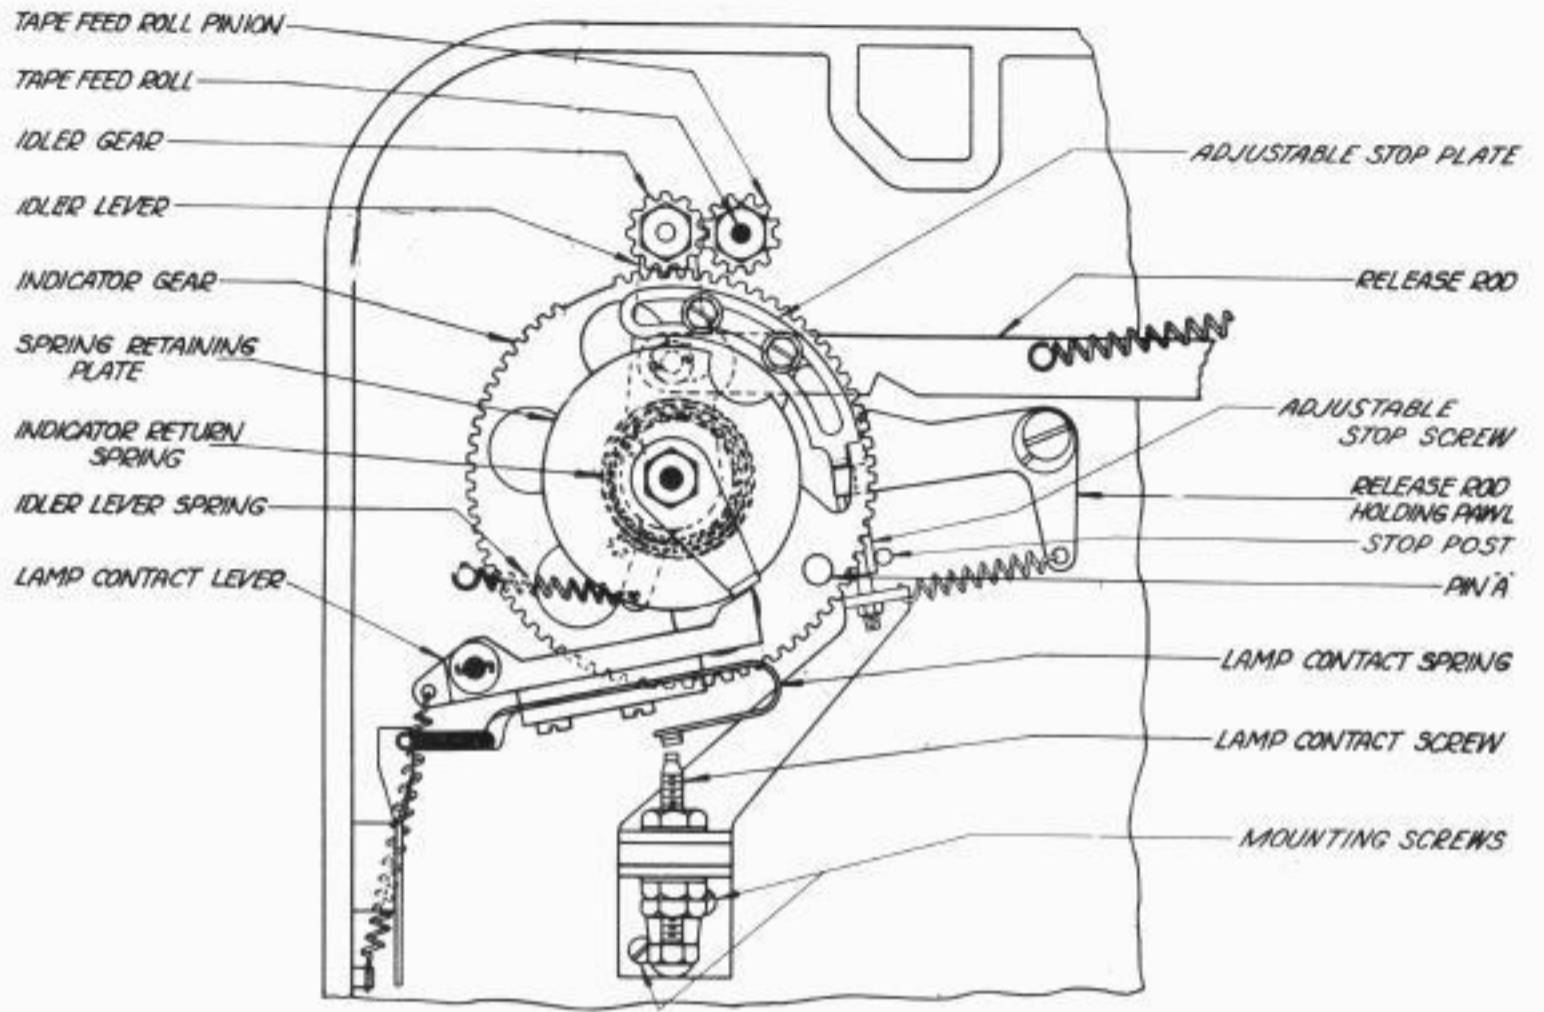

FIGURE 6
**Indicator Gear Stop Plate Adjustment (Figure 6) - See Note (A)